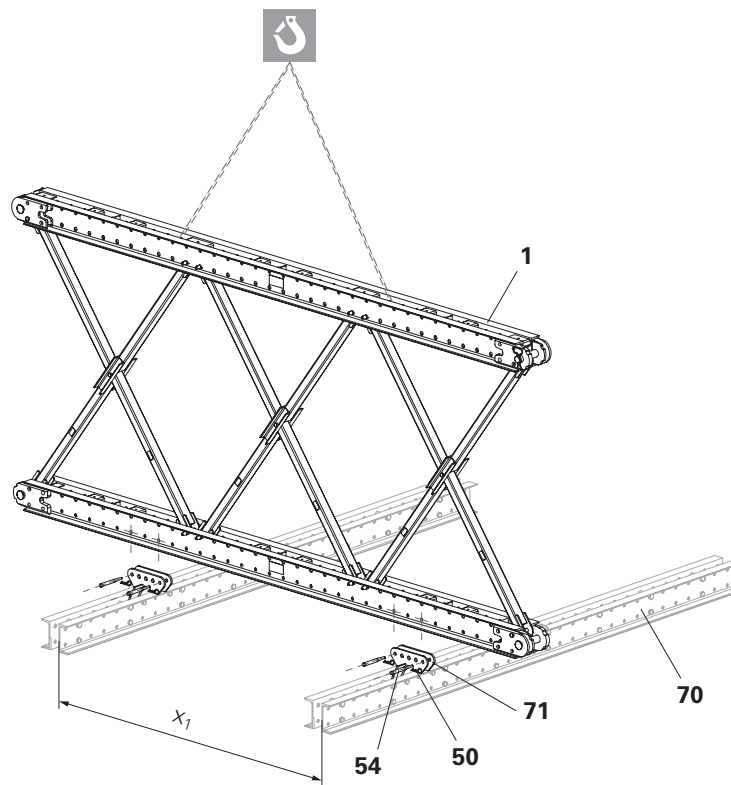

Fig. B1.04
- The distance  $x_1$  between the climbing rails is dependent on the component. (Fig. B1.04)
(Fig. B1.04)